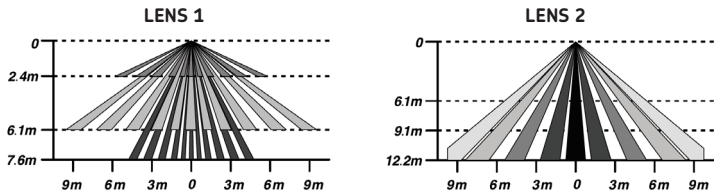

Fig. 2
- This product is supplied with a choice of two lenses which alter the maximum detection zone radius (see Fig. 2)